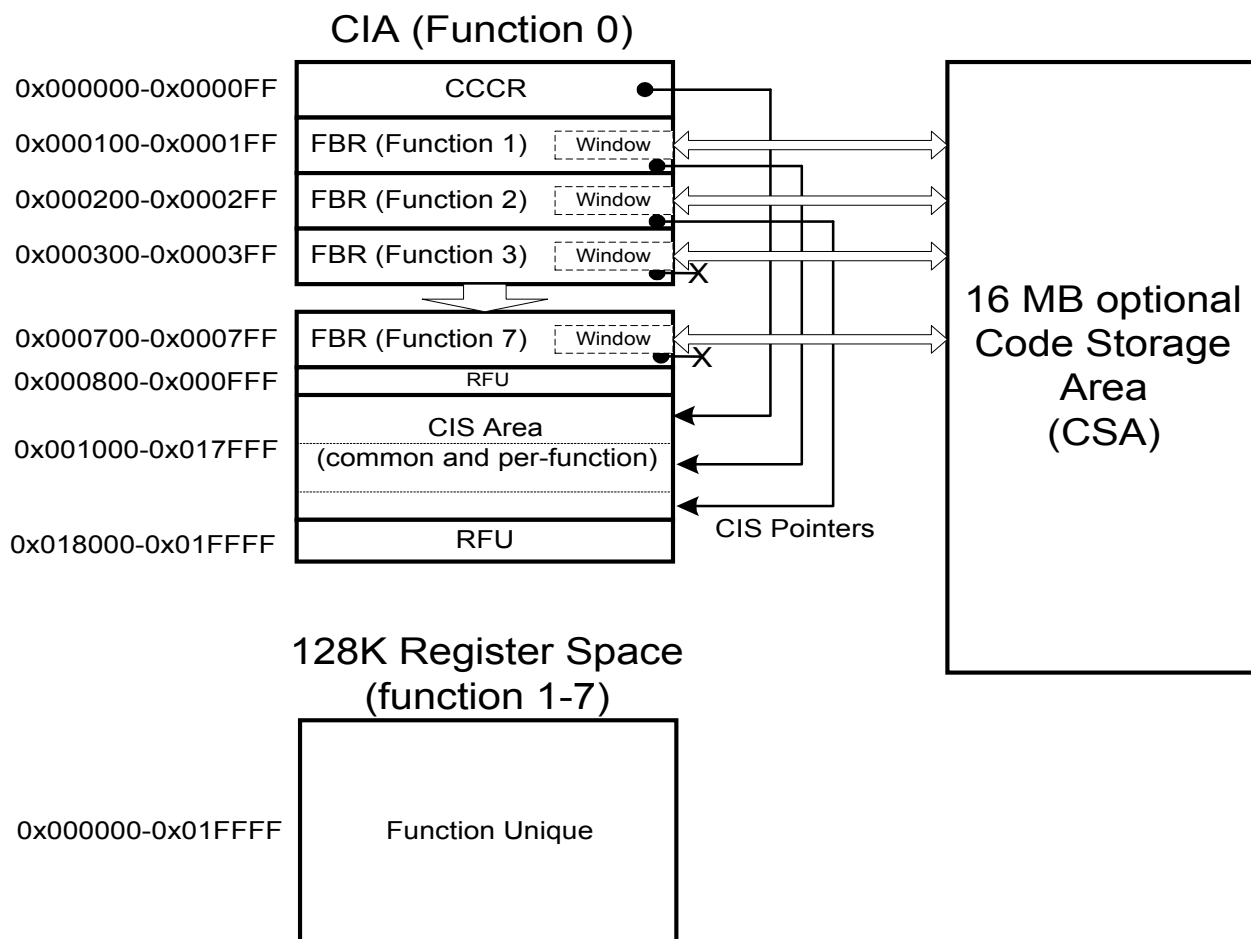

Figure 4 SDIO Internal Map
Each SDIO card may have from 1 to 7 functions plus one memory function built into it. A function is a self contained I/O device. I/O functions may be identical or completely different from each other. All I/O functions are organized as a collection of registers. There is a maximum of 131,072 (2^{17}) registers possible for each I/O function. These registers and their individual bits may be read Only (RO), Write Only (WO) or Read/Write (R/W). These registers can be 8, 16 or 32 bits wide within the card. All addressing is based on byte access. These registers can be written and/or read one at a time, multiply to the same address or multiply to an incrementing address. The single R/W access is often used to initialize the I/O function or to read a single status or data value. The multiple reads to a fixed address are used to read or write data from a data FIFO register in the card. The read to incrementing addresses is used to read or write a collection of data to/from a RAM area inside of the card. Figure 4 shows the mapping of the CIA and optional CSA space for an SDIO card.
The SDIO card has a fixed internal register space and a Function unique area. The fixed area contains information about the card and certain mandatory and optional registers in fixed locations. The fixed locations allow any host to obtain information about the card and perform simple operations such as enable in a common manner. The function unique area is a per-function area, which is defined by the vendor and different for each SDIO function. Figure 4 shows the internal map of an SDIO card with multiple functions.